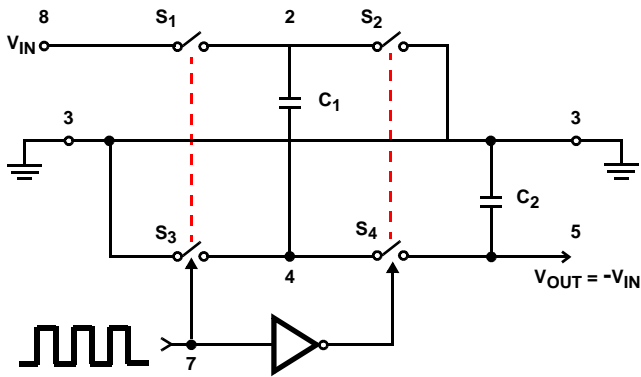
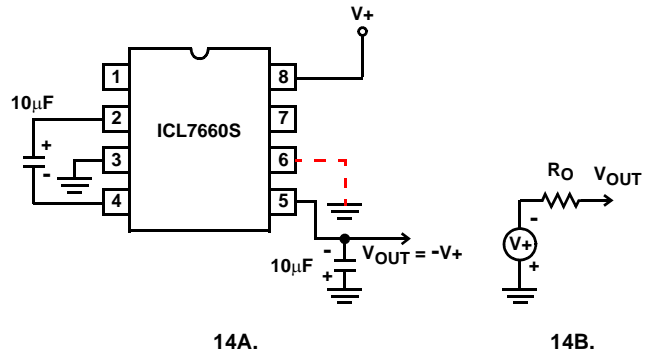
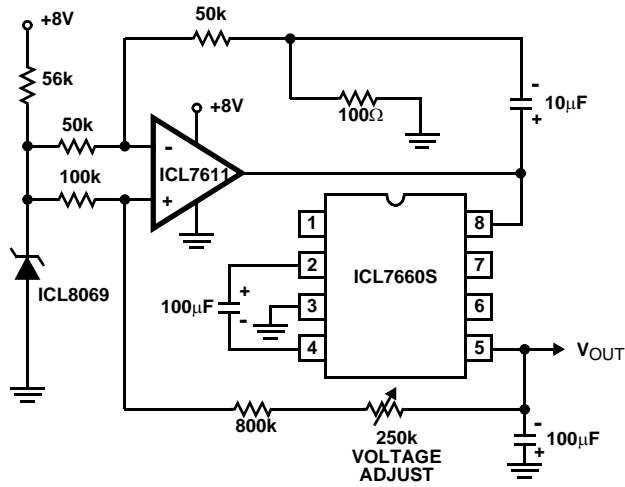

FIGURE 13. IDEALIZED NEGATIVE VOLTAGE CONVERTER
FIGURE 14. SIMPLE NEGATIVE CONVERTER AND ITS OUTPUT EQUIVALENT
FIGURE 20. REGULATING THE OUTPUT VOLTAGE
The ICL7660S contains all the necessary circuitry to complete a negative voltage converter, with the exception of 2 external capacitors which may be inexpensive 10 μ F polarized electrolytic types. The mode of operation of the device may be best understood by considering Figure 13, which shows an idealized negative voltage converter. Capacitor C_1 is charged to a voltage, V_+ , for the half cycle when switches S_1 and S_3 are closed. (Note: Switches S_2 and S_4 are open during this half cycle.) During the second half cycle of operation, switches S_2 and S_4 are closed, with S_1 and S_3 open, thereby shifting capacitor C_1 to C_2 such that the voltage on C_2 is exactly V_+ , assuming ideal switches and no load on C_2 . The ICL7660S approaches this ideal situation more closely than existing non-mechanical circuits.
In the ICL7660S, the 4 switches of Figure 13 are MOS power switches; S_1 is a P-Channel devices and S_2 , S_3 and
where V_1 and V_2 are the voltages on C_1 during the pump and transfer cycles. If the impedances of C_1 and C_2 are relatively high at the pump frequency (refer to Figure 13) compared to the value of R_L , there will be substantial difference in the voltages V_1 and V_2 . Therefore it is not only desirable to make C_2 as large as possible to eliminate output voltage ripple, but also to employ a correspondingly large value for C_1 in order to achieve maximum efficiency of operation.
The majority of applications will undoubtedly utilize the ICL7660S for generation of negative supply voltages. Figure 14 shows typical connections to provide a negative supply where a positive supply of +1.5V to +12V is available. Keep in mind that pin 6 (LV) is tied to the supply negative (GND) for supply voltage below 3.5V.
The output characteristics of the circuit in Figure 14 can be approximated by an ideal voltage source in series with a resistance as shown in Figure 14B. The voltage source has a value of $-(V^+)$. The output impedance (R_O) is a function of the ON resistance of the internal MOS switches (shown in Figure 13), the switching frequency, the value of C_1 and C_2 , and the ESR (equivalent series resistance) of C_1 and C_2 . A good first order approximation for R_O is:
The ICL7660S may be employed to achieve positive voltage doubling using the circuit shown in Figure 20. In this application, the pump inverter switches of the ICL7660S are used to charge C_1 to a voltage level of $V_+ - V_F$ (where V_+ is the supply voltage and V_F is the forward voltage on C_1 plus the supply voltage (V_+) is applied through diode D_2 to capacitor C_2 . The voltage thus created on C_2 becomes $(2V_+) - (2V_F)$ or twice the supply voltage minus the combined forward voltage drops of diodes D_1 and D_2 .
Figure 21 combines the functions shown in Figure 14 and Figure 20 to provide negative voltage conversion and positive voltage doubling simultaneously. This approach would be, for example, suitable for generating +9V and -5V from an existing +5V supply. In this instance capacitors C_1 and C_3 perform the pump and reservoir functions respectively for the generation of the negative voltage, while capacitors C_2 and C_4 are pump and reservoir respectively for the doubled positive voltage. There is a penalty in this configuration which combines both functions, however, in that the source impedances of the generated supplies will be somewhat higher due to the finite impedance of the common charge pump driver at pin 2 of the device.